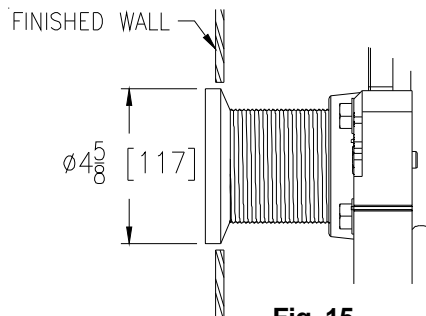

Fig. 15
16. Finished wall should be installed. Ensure appropriate size opening is made for coupling. For EZ-Set™ Coupling hole sizing See Fig 15